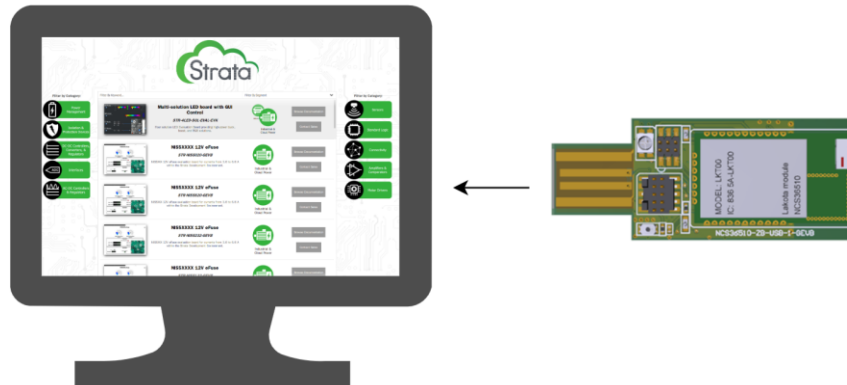

Figure 6: Hardware Setup
3. Connect the USB dongle (ZC) to the computer as shown in figure 6.